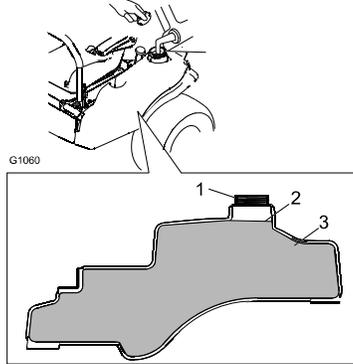

Figure 7
3. Add unleaded regular gasoline until the body of the tank is full but fuel does not fill the neck of the tank (Figure 7). This